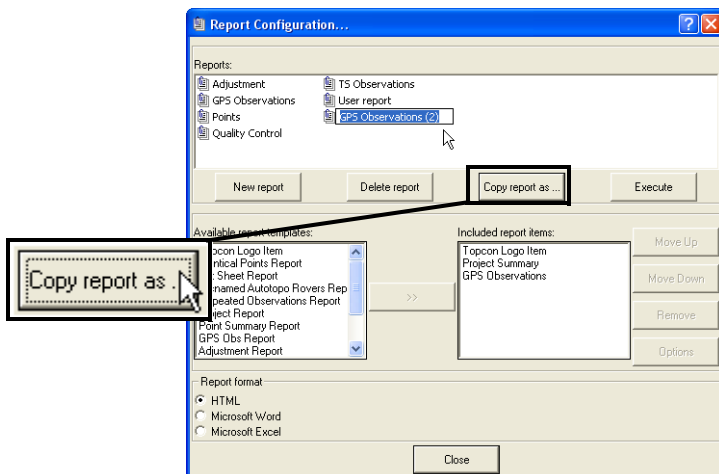

Figure 7-15. Copy Selected Report
1. Select the desired report in the *Reports* panel and click **Copy report as**. A configuration with the same items as the original report is added to the *Reports* window (Figure 7-15).